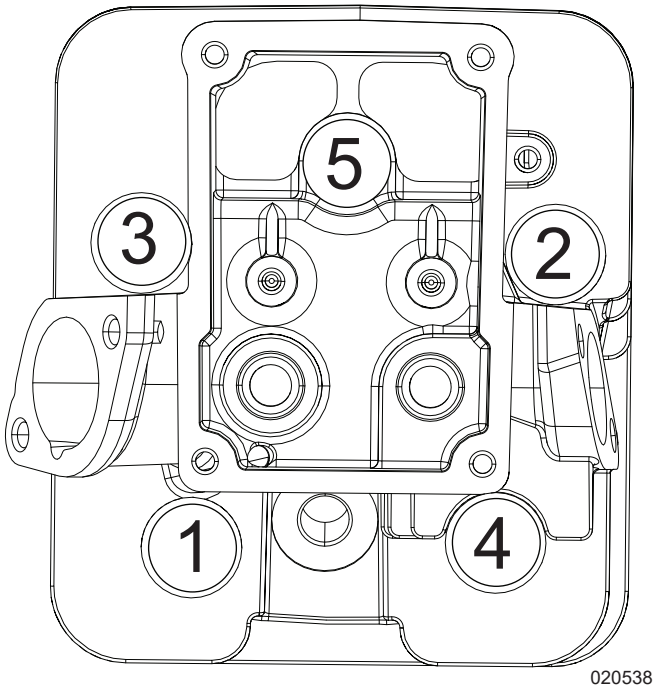

Figure 12-5. Cylinder Head Bolt Torque Sequence
3. See Figure 12-5. Tighten cylinder head bolts in pattern shown with the two step process as follows.